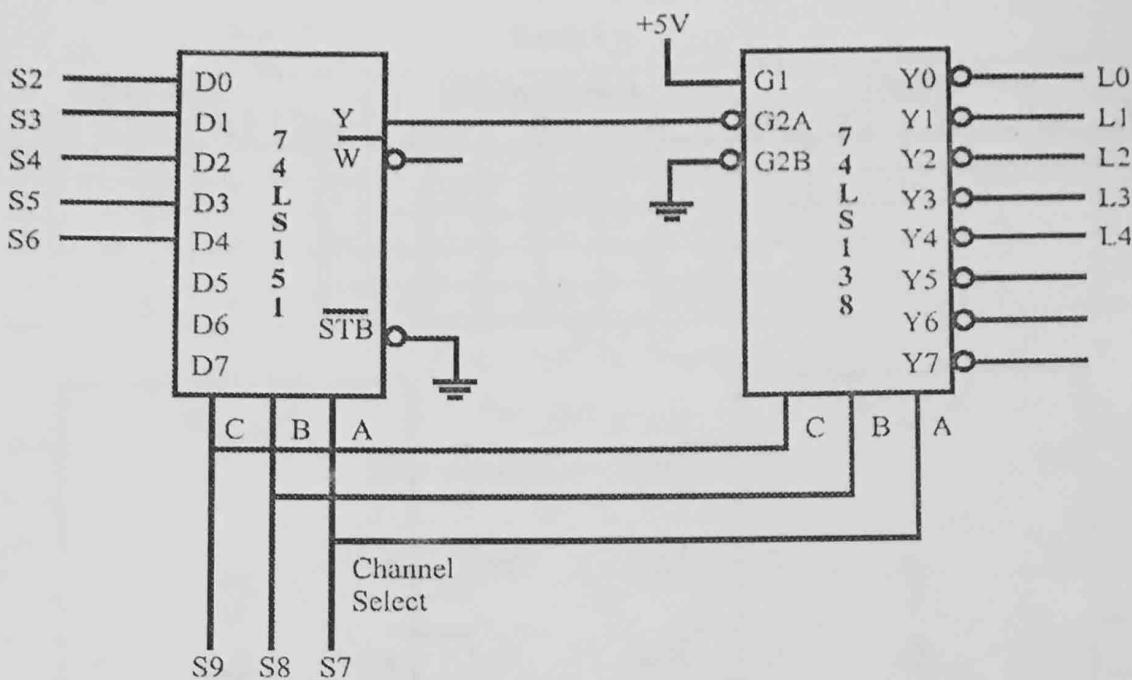
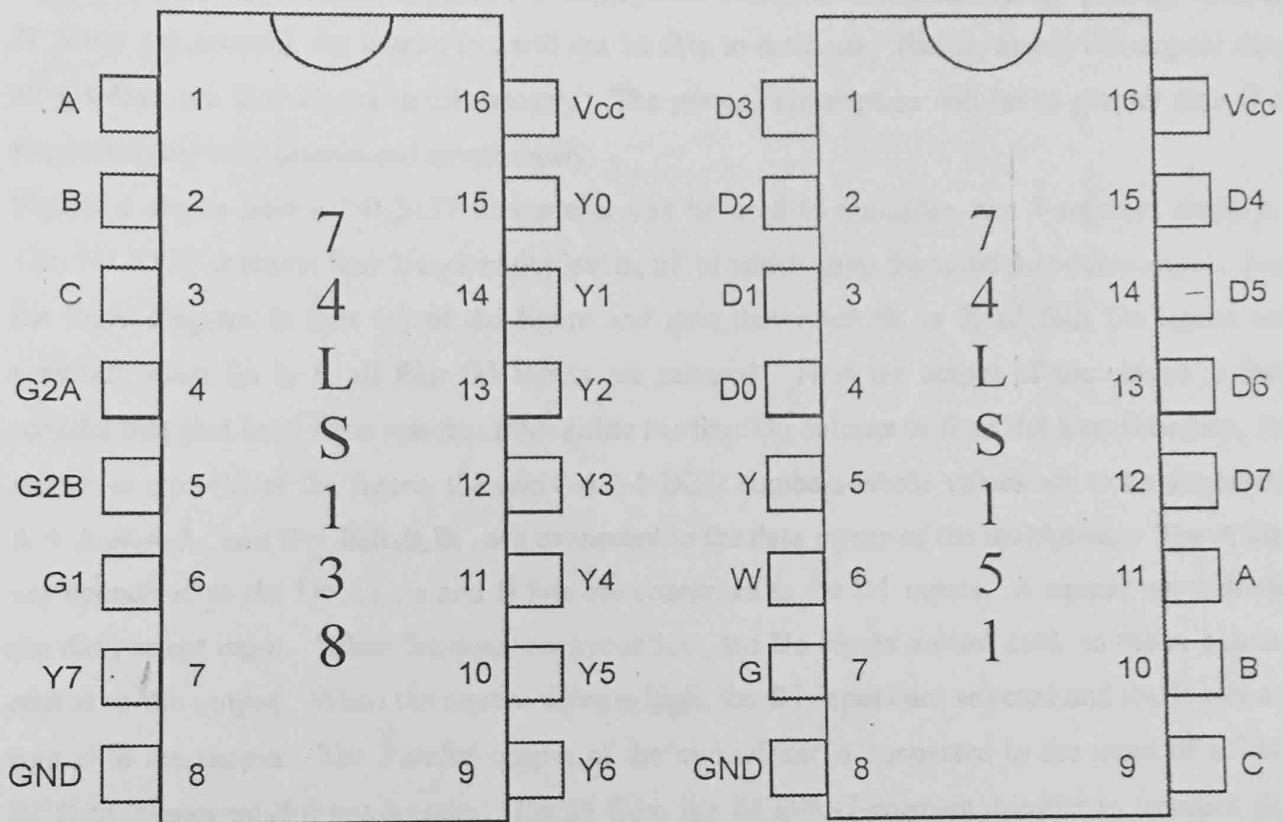

Figure 17.1
Figure 17.2
As shown in figure 17.1, the 74LS151 functions as a 1-of-8 multiplexer. The 3-bit select code will command which of the data inputs will be steered to the Y output. This same 3-bit code will be applied to the select inputs of the 74LS138 demultiplexer. Instead of running eight separate data lines, this circuit employs one multiplexed data line and three lines of select code. This saves a total of four lines.
The select code of the desired data line (0 through 7) is applied to select inputs of both ICs as shown in figure 17-1. If the selected data is low, the Y output of 74LS151 will go low. This low is applied to the G2A enable input of 74LS138 which will enable the IC and the output that corresponds to the select code will go low and match the original data from 74LS151. If the selected data is high, the Y output of multiplexer will go high. When this high is applied to the active-low enable input of 74LS138, IC will become disabled. All outputs of demultiplexers will go high. The selected output will be high, matching the original data sent from 74LS151.
4. Wire the circuit according to the diagram in figure 17-1 by consulting data sheets in figure 17.2.